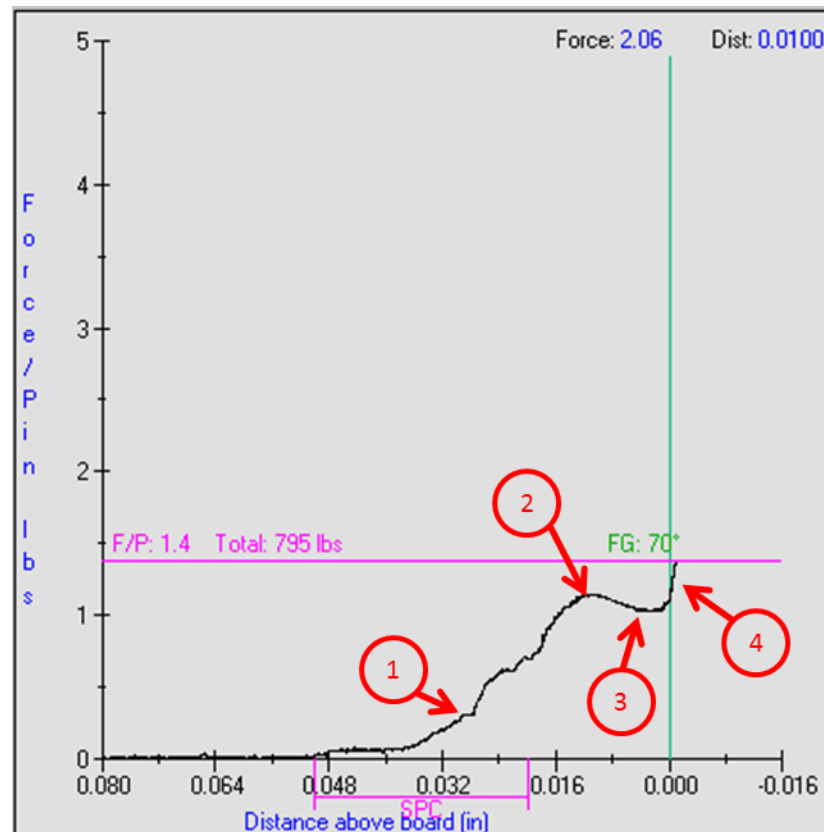

Figure A-7: Typical Force vs. Distance Curve of MEP-12T press for Paladin connectors.
The MEP-12T press produces a Force vs. Distance curve during a pressing sequence similar to the one shown in Figure A-7. The main areas of the curve are: the initial compression of the Paladin compliant pin and compliance of the PCB hole (1), the point of maximum deflection of the Paladin compliant pin (2), the sliding of the compliant pin in the PCB hole (3), and the termination force of the pressing sequence at the 75 Degree Force Gradient line (4). The following descriptions of these areas as for reference and are intended as an aid in understanding the pressing characteristics of the Paladin connector utilizing the *ATCS_FEMTO_FG_DWELL.prf* profile.
Part of the initial pressing sequence with the *ATCS_FEMTO_FG_DWELL.prf* profile (Refer to Figure A-7) is to permit settling and alignment of all the compliant pins of the connector prior to a full pressing sequence. In this zone, the Paladin compliant pins and the PCB plated through holes begin to conform to each other and the Paladin complaint pins begin to compress. At this zone the slope of the force gradient line begins to increase as the Paladin compliant pins continue to compress.